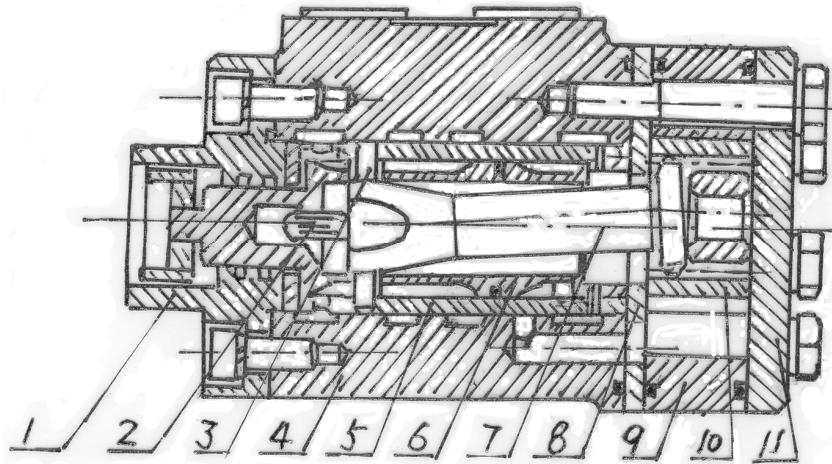

Fig. 9 Structure of the Full hydraulic steering gear
The working principle of the full hydraulic steering gears is shown in Fig.9. The Rear axle housing (9) is also being made use of as the oil tank of the steering gears. Low-pressure oil flows into Constant flow pump HLCB-D06706 (L) (6) on the Diesel engine (7) through the Ø18 inlet pipe of the pump. The steady high pressure oil flows into the Full hydraulic steering gears of Model BZZ1-E80 (4) and actuates the Steering cylinder (2) for steering action, but the overflow oil comes back to the gear pump through the oil return pipe. The Constant flow pump is adopted for keeping a stable oil delivery, so as to ensure the steady working of the hydraulic steering gear.
- a. The structure of the full hydraulic steering gear is shown in Fig. 9. The Rotary servo valve, consisting of the Valve element (6), Valve bush (5) and Valve body (4), controls the flow direction of hydraulic oil. The Stator (9) and Rotor (10) makes up the pair of cycloidal toothing functioning as the flow control valve, which makes the hydraulic oil flow enter into the steering cylinder be in the direct ratio of the turning angle of steering wheel. The Linkage shaft (7) transmits torque.